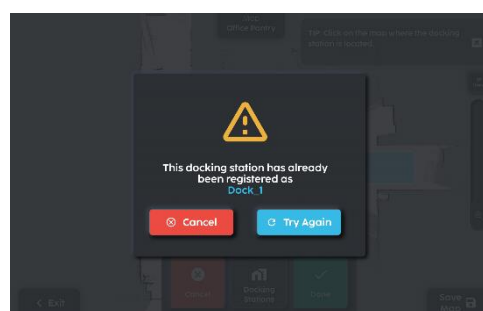

Fig 12
14. If docking station has been registered, select cancel and go to the 'POST REGISTRATION' section (Fig 12).